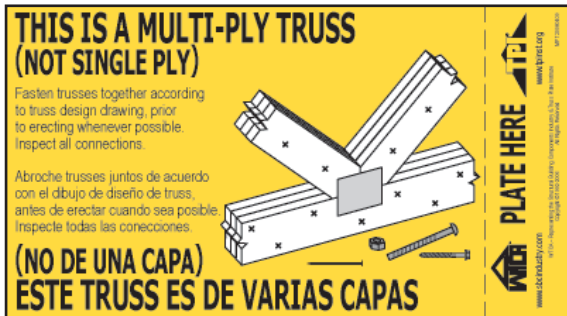

FIGURE B9-3
- Some Truss Manufacturers mark Girder Trusses with supplemental tags, calling further attention to the number of plies and fastening schedule on the TDD. An example of one such truss tag is shown in Figure B9-3.